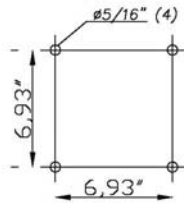

Fig. 2
- Confirm that the ceiling will support the weight of the hood. Drill 4 holes in the ceiling using a 5/6" bit and insert the plugs (Fig. 2).